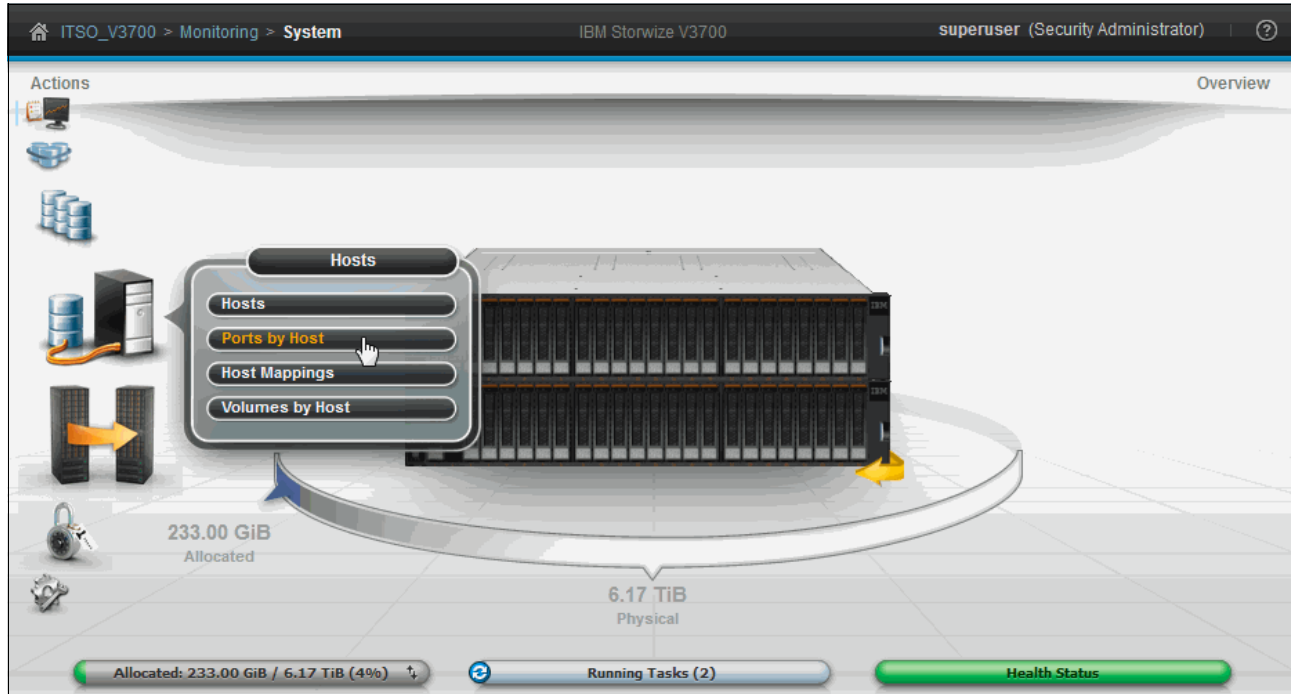

Figure 8-27 Ports by Host pane
1. Browse to **Hosts** → **Ports by Host** to open the Ports by Host pane, as shown in Figure 8-27.